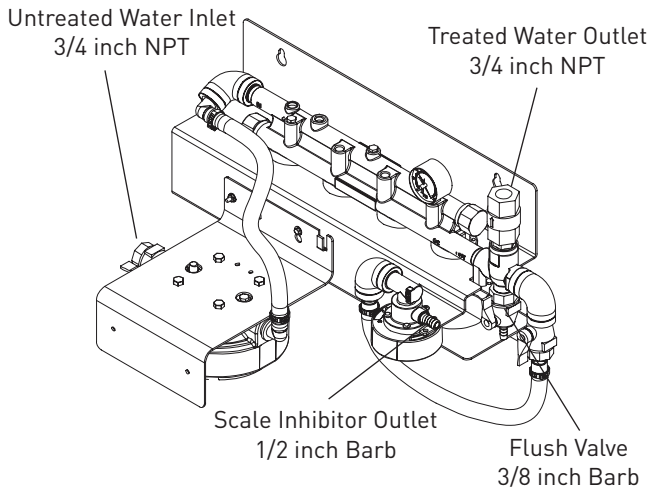

Figure 2
8. Connect the treated water outlet port to the equipment being served (Figure 2).
9. Connect the untreated water to the inlet fitting on the pretreatment head (Figure 2).
10. Attach 3/8 inch I.D. tubing to the flush valve fitting (Figure 2). Run the other end of the tubing to a drain.
12. Turn off the flow valves for the inlet, flush and scale inhibitor cartridge (2SR-BW)(Figure 2).